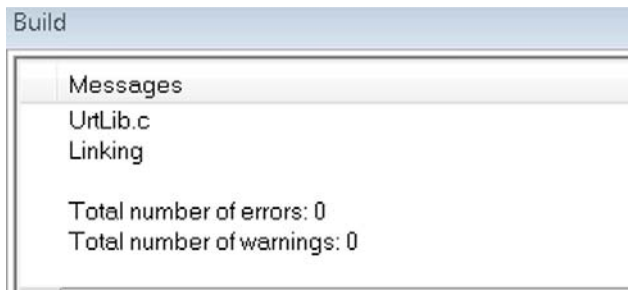

Figure 11. Build Output Window
2. Click **Rebuild All**. The IDE begins building the executable from the source files, which may take a couple of seconds. The message shown in Figure 11 appears in the **Build** window when the build is complete.